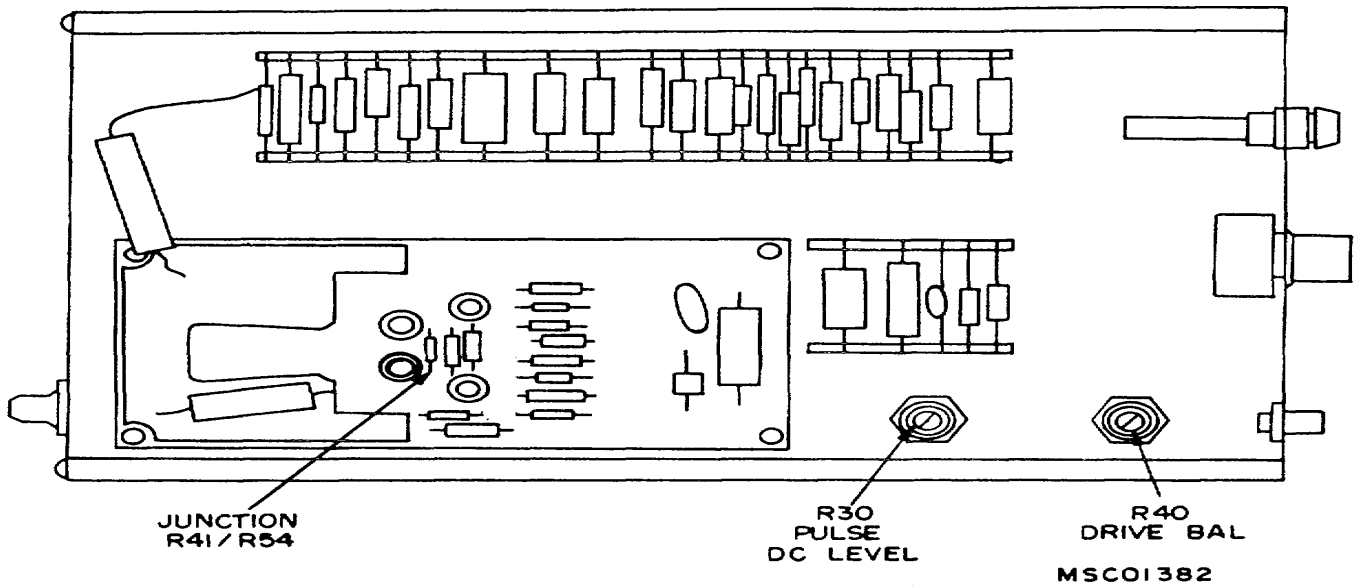

Figure 2. Calibration adapter - left side view.
(3) Set TI TEST FUNCTION switch to + PULSE.
(4) Adjust voltage standard (A8) for a 95-volt dc output.
(5) Adjust TI AMPLITUDE control for 2 centimeters of vertical deflection on oscilloscope (A3) crt and adjust both POSITION controls to superimpose CH1 and CH2 signals. If signals cannot be adjusted for 2 divisions of superimposed (equal) amplitude, disregarding overshoot at leading and trailing edges, perform *b* (1) below.
(6) Connect dc voltmeter (.A2) to TI junction R41/R54 (fig. 2) and chassis ground. using probe (B7). If dc voltmeter does not indicate between 66.00 and 69.00 volts, perform b(2) and (3) below.
(7) Remove probe connected in (6) above.
(1) Adjust DRIVE BAL R40 (fig. 2) and both POSITION controls until CHI and CH2 signals are superimposed.
(2) .Adjust PULSE DC LEVEL R30 (fig. 2) until dc voltmeter indicates between 66.00 and 69.00 volts.
(3) Due to interaction of adjustments, repeat (1) and (2) abode for optimum results.